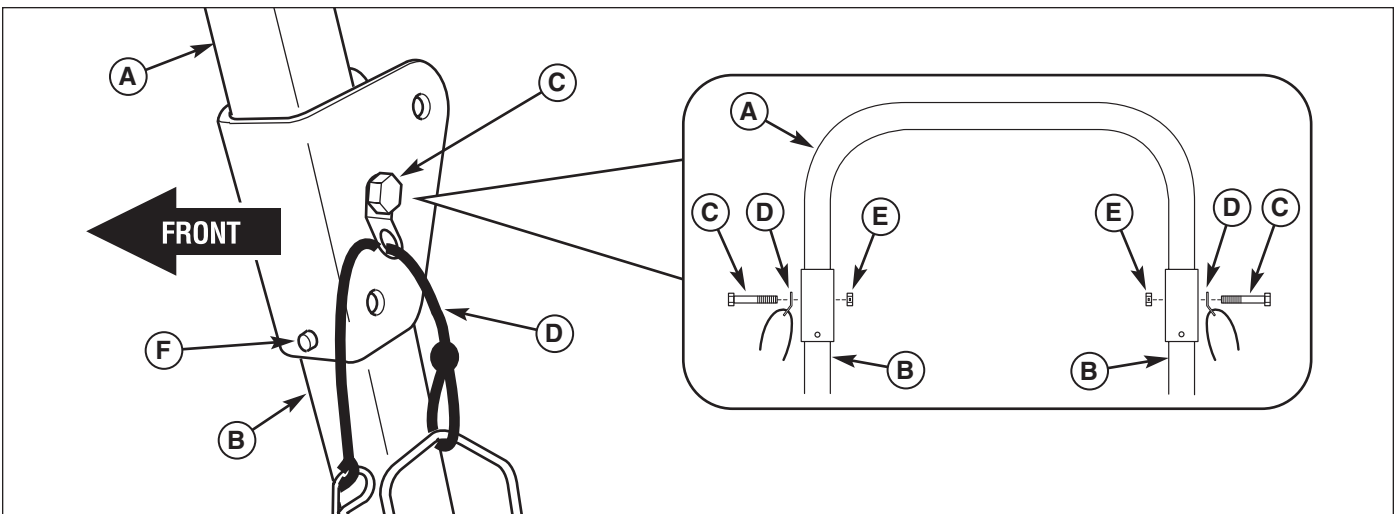

Figure 10. Install Top Loop
4. Install the top loop (A, Figure 10) onto the upright tubes (B). From the outside, install the 1/2" x 3" bolt (C) through the retainer pin assembly (D), then through the top loop and upright tube and shown in Figure 10. Loosely install the 1/2" side lock nut (E). Repeat for other side.